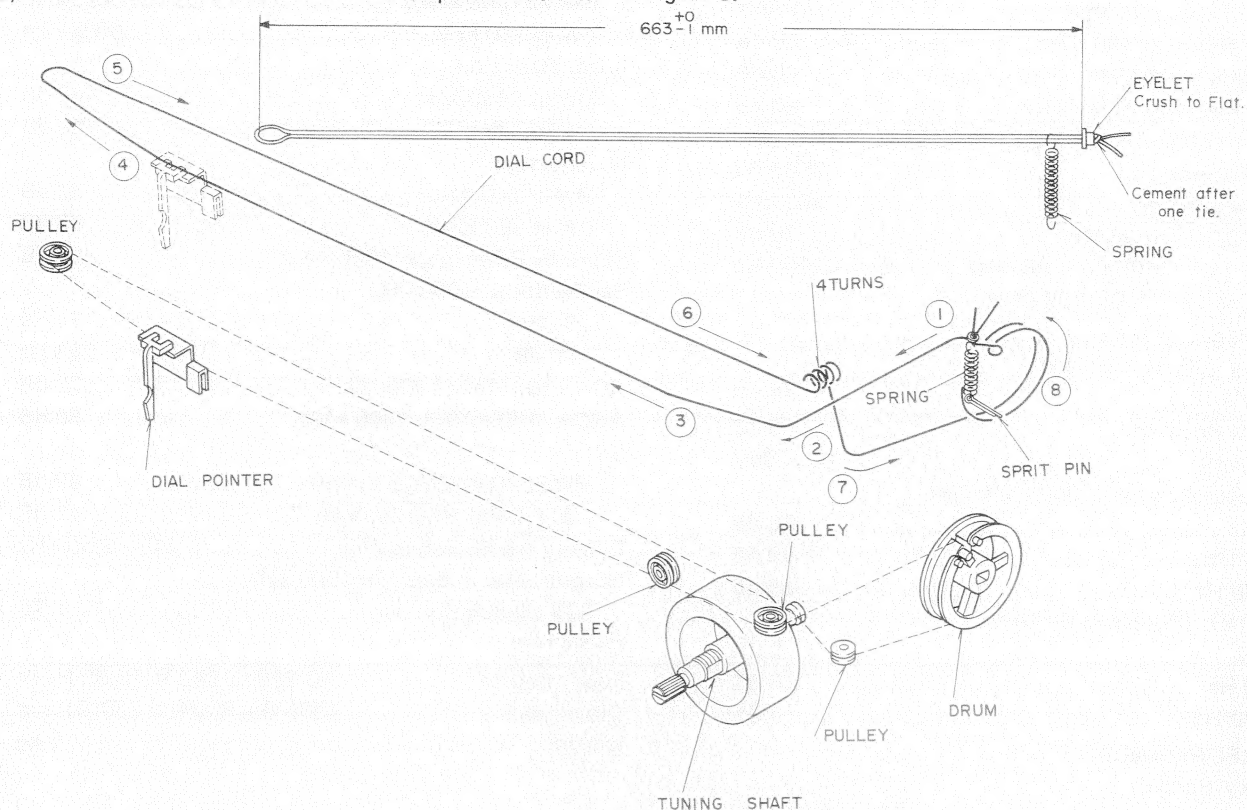

Figure 3
- (1) Set the tuning capacitor to the maximum capacitance (fully counterclockwise position).
- (2) Wind the dial cord in the numerical sequence as shown in Figure 3.